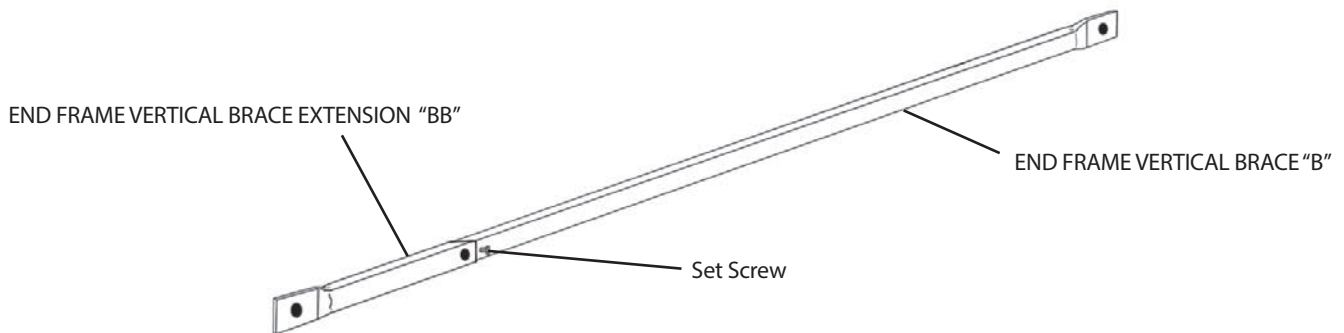

Figure 21.1
STEP 13: Locate the (2) END FRAME VERTICAL BRACES “B” and the (2) END FRAME VERTICAL BRACE EXTENSIONS “BB”. Slide the END FRAME VERTICAL BRACES “B” into the corresponding opening in the END FRAME VERTICAL BRACE EXTENSIONS “BB” as illustrated in Figure 21.1, and fasten with the hardware (1) 1.25” Bolt and (1) Nut. This will create part COMPLETED VERTICAL BRACE , as it will be referred to in the remainder of the assembly manual.